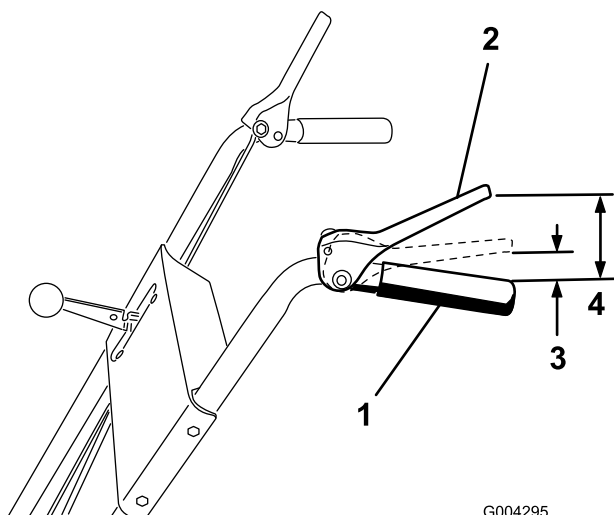

Figure 7
2. Adjust the 2 flange nuts up or down on the traction rod until the distance between the top of the handgrip and the bottom of the traction control lever is approximately 4-1/2 inches (11.4 cm) as shown in Figure 7.
top of the handgrip and the bottom of the traction control lever is 1 to 2 inches (3 to 5 cm) as shown in Figure 7.